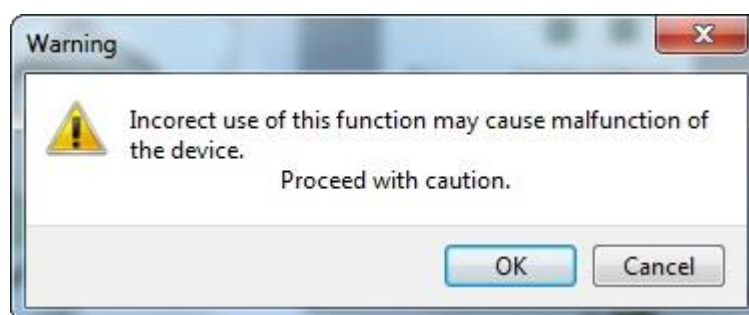

Fig. 24 Warning.
- Select: **OK** to start update (Fig. 24)